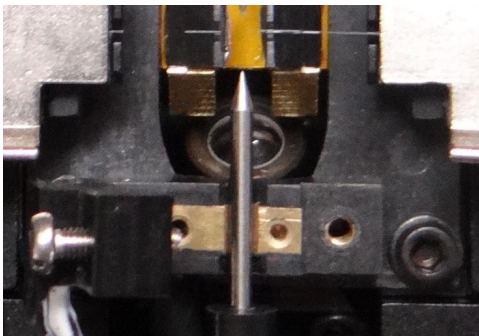

Figure 5.5
3. Take out the electrode from the electrode holder. (Electrode is fixed on the electrode holder, Figure 5.5).